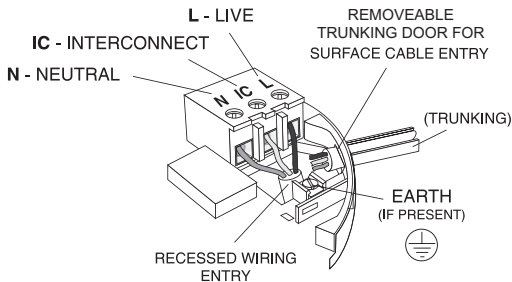

Figure 4
To interconnect Alarms connect all the IC terminals together as shown in **Figure 4** (see “**Interconnecting Alarms**” section).
4. If the mains wires are recessed, bring the wires through the rear hole in the mounting plate as shown in **Figure 4**.
(a) position the mounting plate so the cable trunking is as shown in **Figure 4**.